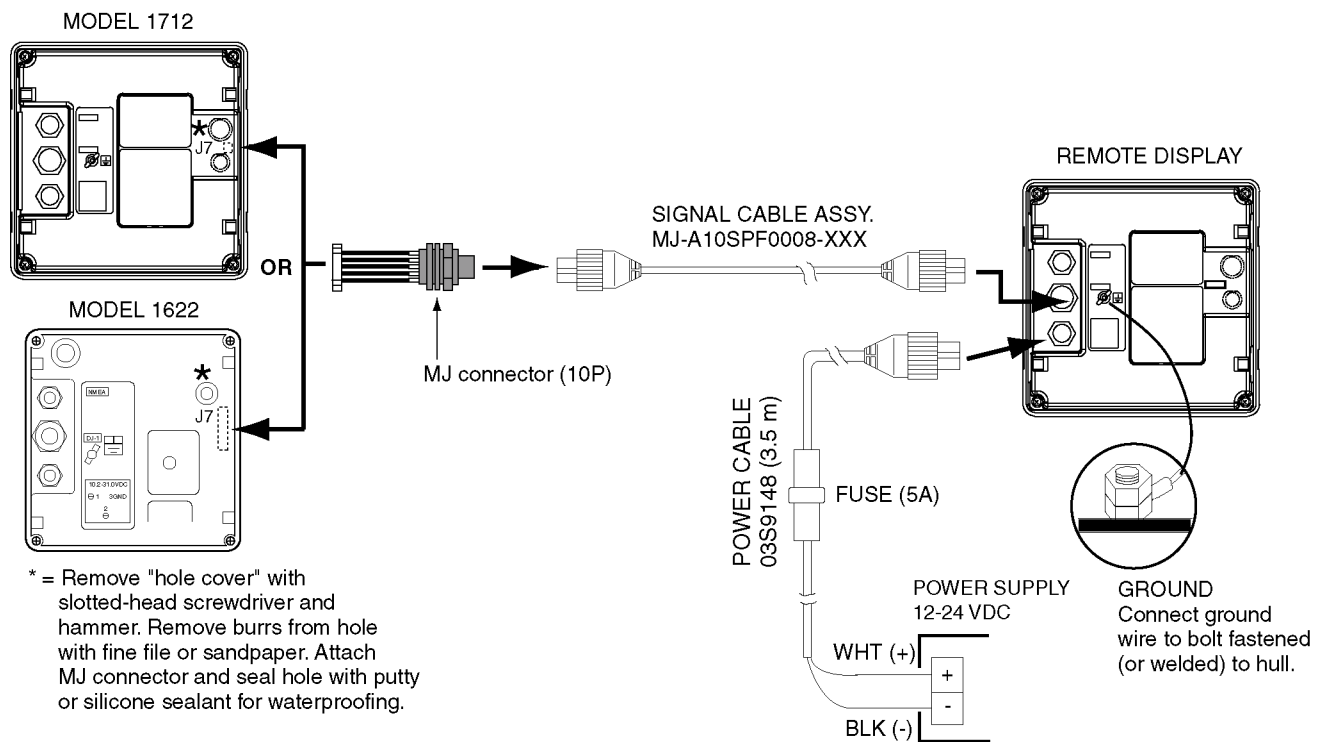

Figure 3-2 Wiring
3. Using a slotted-head screwdriver and hammer, punch out the “hole cover” from the location shown in Figure 3-2. Remove burrs from the hole with a fine file or sandpaper.